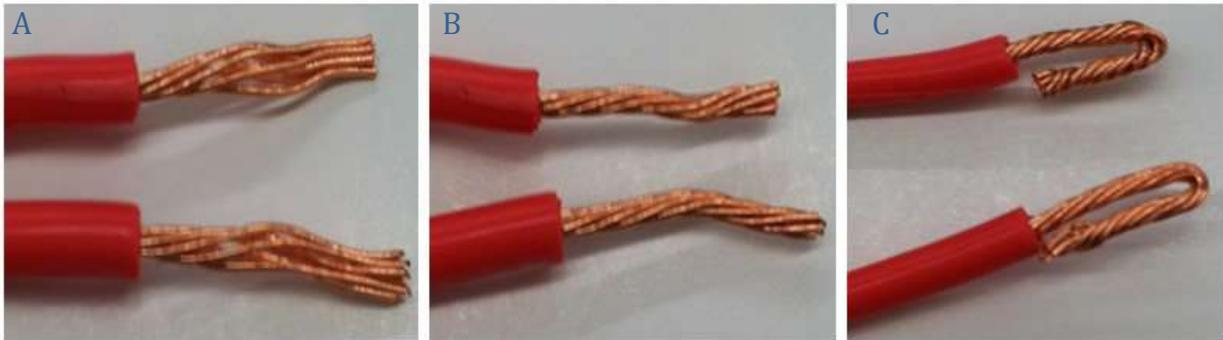

Figure 5. A) Exposed copper filaments; B) twisted copper filaments; and C) final product of twisted and folded copper filaments.
- d. Twist filaments together tightly and fold in half (Figure 5).